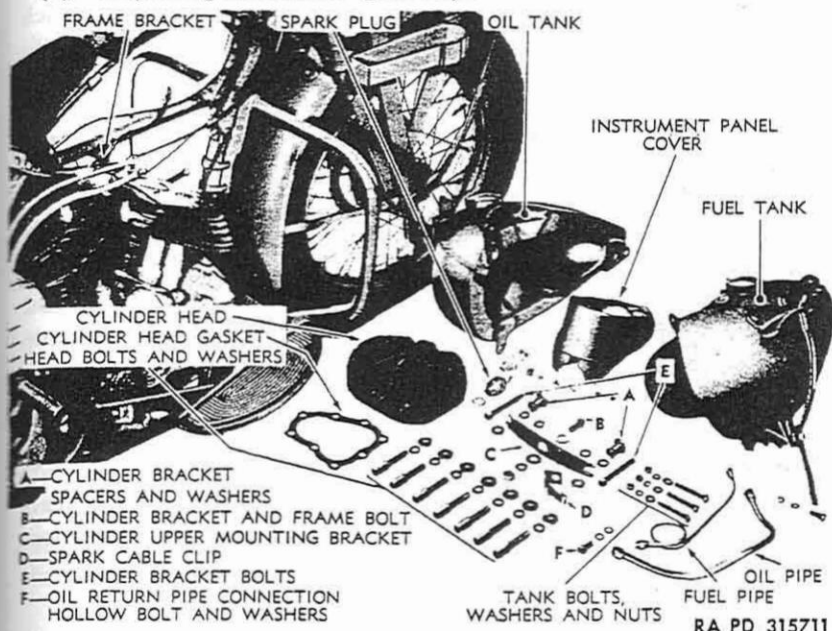

Figure 15—Disassembly for Head Gasket Replacement
41. REPLACEMENT OF HEAD GASKET (fig. 15).
a. **Removal.** Refer to figure 15, illustrating necessary parts and units to be removed to perform this operation.
- (1) Remove instrument panel cover (par. 119).
- (2) Remove gasoline tank and oil tank (par. 107).
- (3) Remove cylinder head bracket to frame lug bolt; this will free clamp which secures front spark plug cable. Pay particular attention to shim washers placed between cylinder head bracket and frame lug, as these washers must be replaced when installing cylinder head.
- (4) Remove spark plug, or plugs.
(5) Remove cylinder head bolts, using head bolt wrench 41-W-1525. *NOTE: On some 42 WLA models, plain washers (0.095-inch thick), in addition to regular (heavy) cylinder head bolt washers, were used to prevent cylinder head bolts from bottoming.*
(6) Perform carbon removal (head only). Refer to paragraph 42.
b. Installing Gasket and Head (fig. 15).
(1) Clean top of cylinder. Apply a light application of grease or oil to both sides of gasket before locating on cylinder head. Place head on cylinder.
(2) Install head bolts, using heavy washers (also 0.095-inch thick plain washers, if any were removed). If in doubt as to use of 0.095-inch thick washers in addition to regular washers, measure depth of bolt holes in cylinder head. Head having hole depth of $\frac{31}{32}$ inch must use the 0.095-inch thick washers in addition to regular washers. Head having bolt hole depth of $1\frac{1}{16}$ inch does not require the 0.095-inch thick washers.
(3) Install cylinder frame bracket with the two long bolts, special (spool-shaped) spacers, and flat washers. The spacers go between cylinder heads and frame bracket. A flat washer goes under the head of each long cylinder bolt, above the bracket; some engines may have flat washers between the spacers and the bracket.
(4) Tighten head bolts evenly to ensure a tight cylinder head joint. Use head bolt wrench 41-W-1525, first turning down bolts just snug, then tightening each bolt $\frac{1}{8}$ to $\frac{1}{4}$ turn at a time, until all are securely tightened. If torque wrench is available, tighten head bolts to 60 foot-pounds minimum, 65 foot-pounds maximum tension when engine is cold.